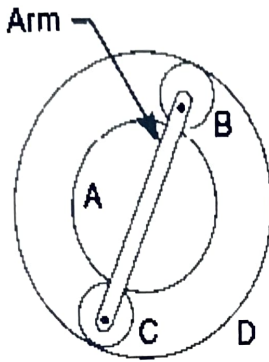

Fig.3
VIb. An epi-cyclic train of gears is arranged as shown in Fig. 3. The number of teeth on (10)